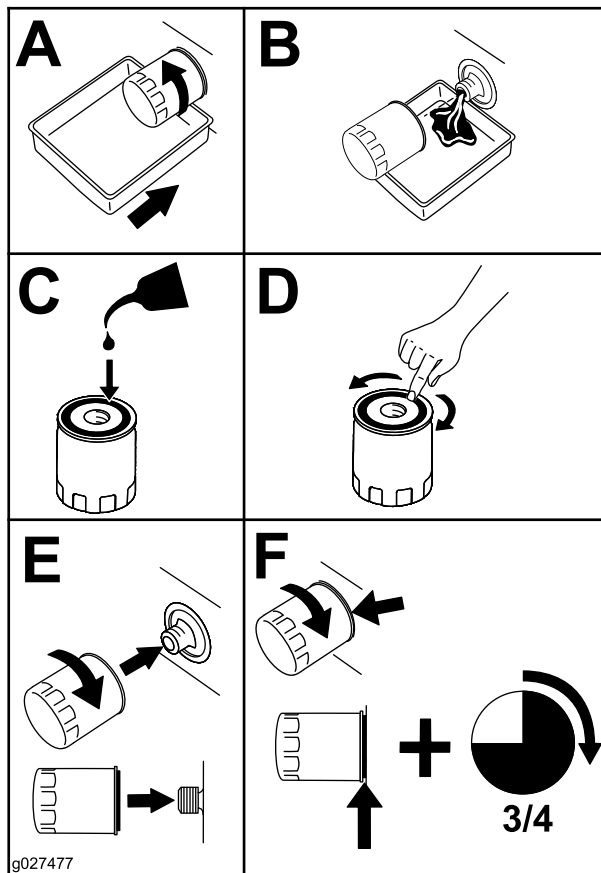

Figure 49
4. Change the engine-oil filter as shown in Figure 49.